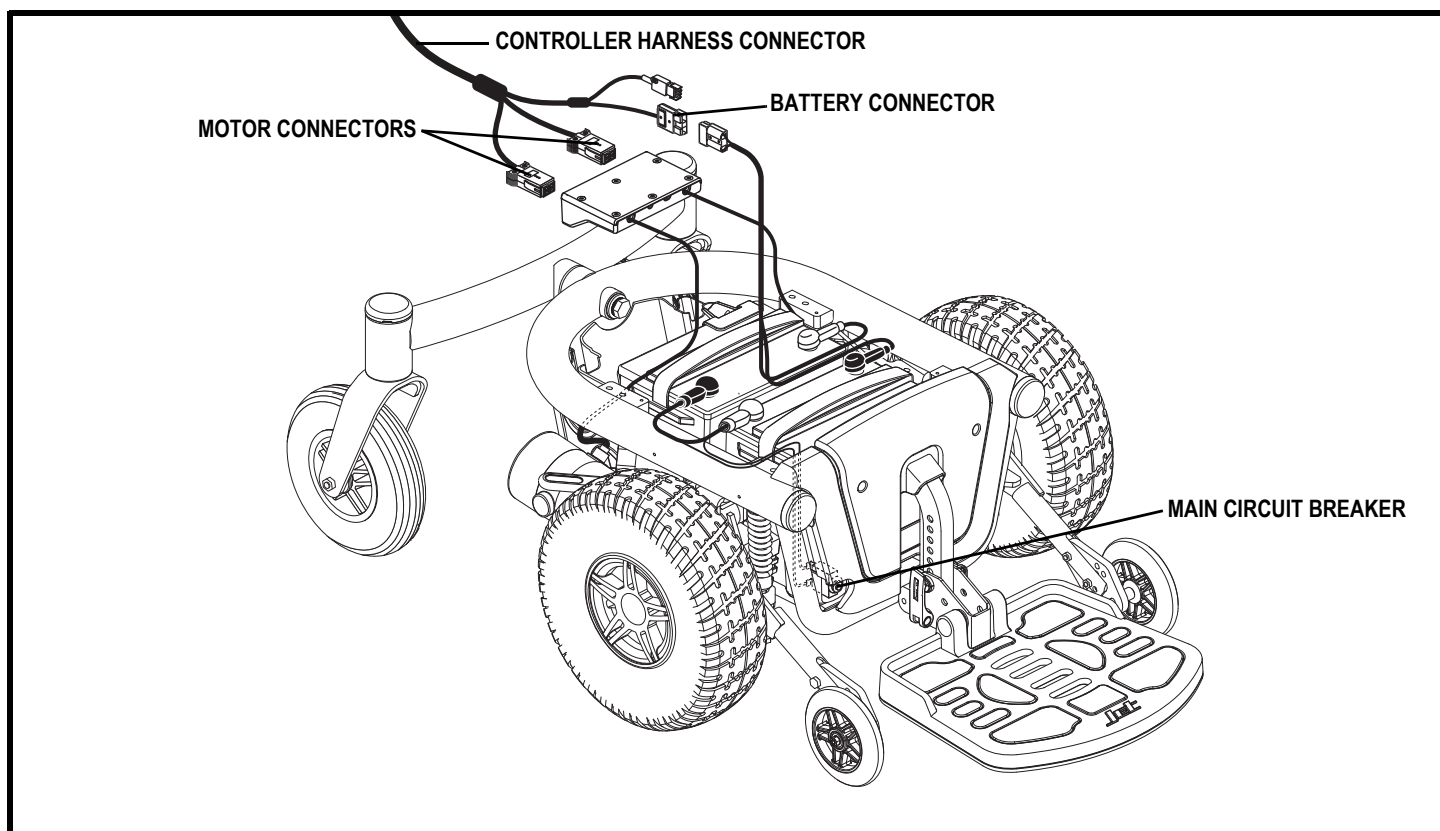

Figure 7. Jet 3 Ultra Electrical Components
The electrical components are located on the power base. The main circuit breaker is located on the front of the battery tray. The controller connector and the motor connectors are located on the power module, inside the power base. See **figure 7**.
8. Plug the motor connectors and the battery connector into the power module. **See figure 7.**
2. Unplug the controller connectors from the power module. **See figure 7.**